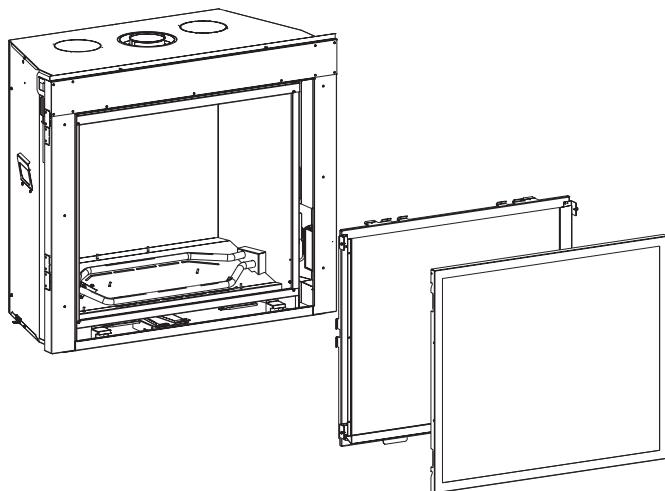

Figure 103
1. Remove the following items: **See Figure 103.**